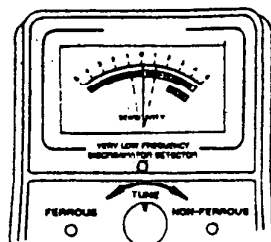

Figure 16
4. Hold the search coil at least 1 foot away from the ground and any metal object. Hold down the red button on the handle and slowly rotate **TUNE** until the viewmeter pointer rests at or near 0 (see Figure 16).